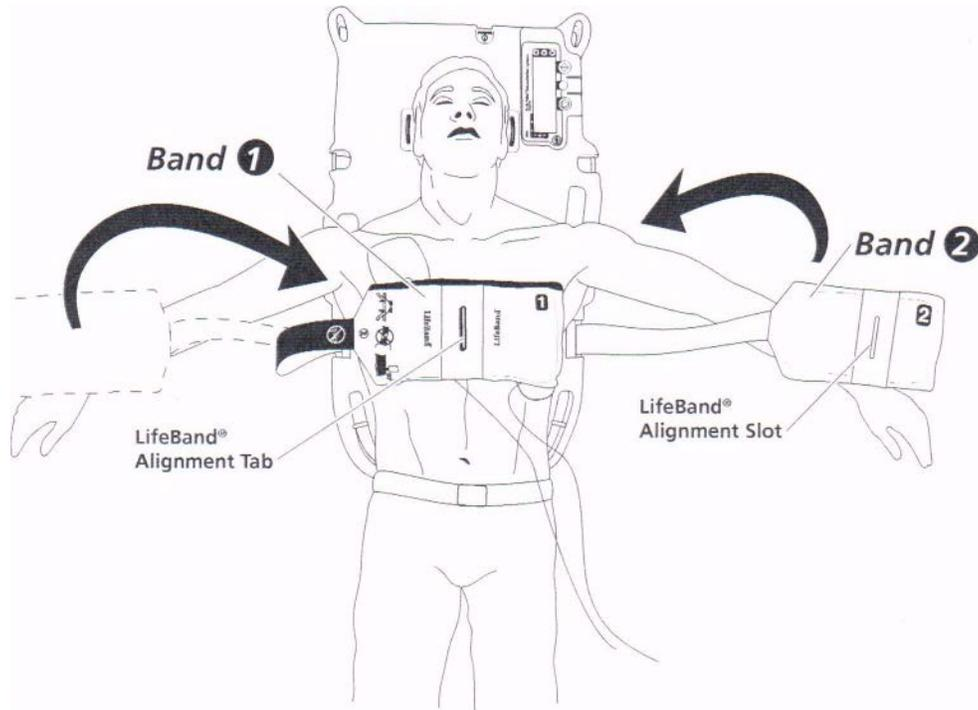

Figure 3-7 Aligning the LifeBand® Chest Bands
- a) Place band O on top of patient's chest (see Figure 3-7).
- b) Locate mating slot of band @ over the alignment tab O (see Figure 3-7).